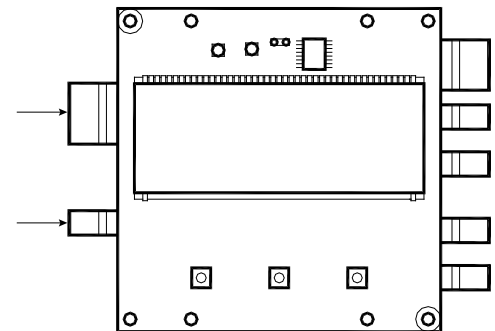

Figure 30: Cables to plugs
4. Connect the cables to the corresponding plugs on the left side of the board as shown in Figure 30.